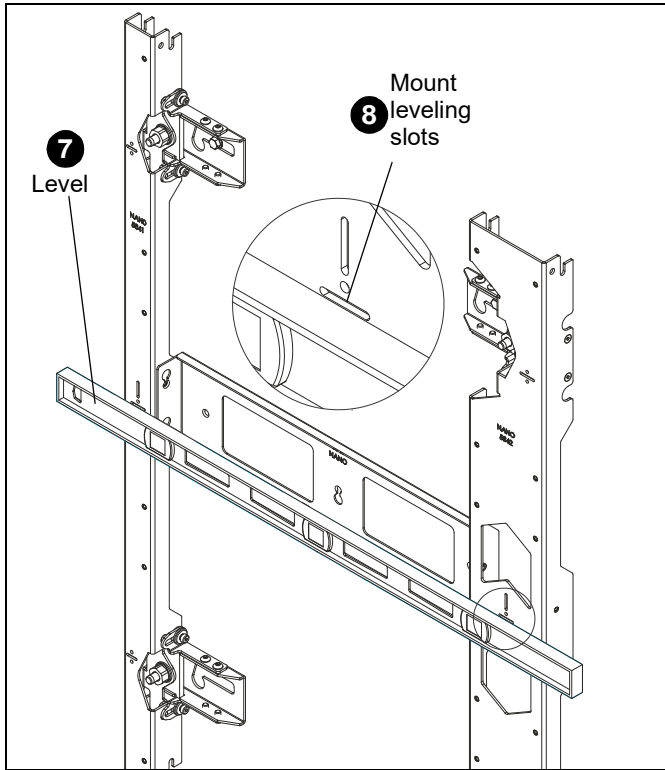

Figure 11
7. Place a level across front of the mount at bottom of leveling slots. (See Figure 11)
8. Check the level of the mount at the bottom of the leveling slots. (See Figure 11)